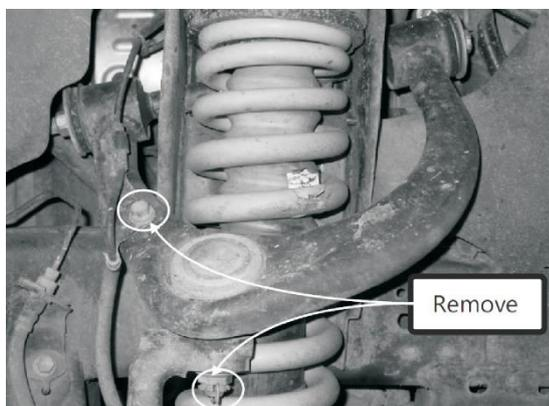

Figure 3 – Removal location of ABS wiring and split pin.
3. Loosen the nut on the upper arm-to-frame mounting bolt and remove bolt holding ABS wiring from upper arm. (Figure 3.)